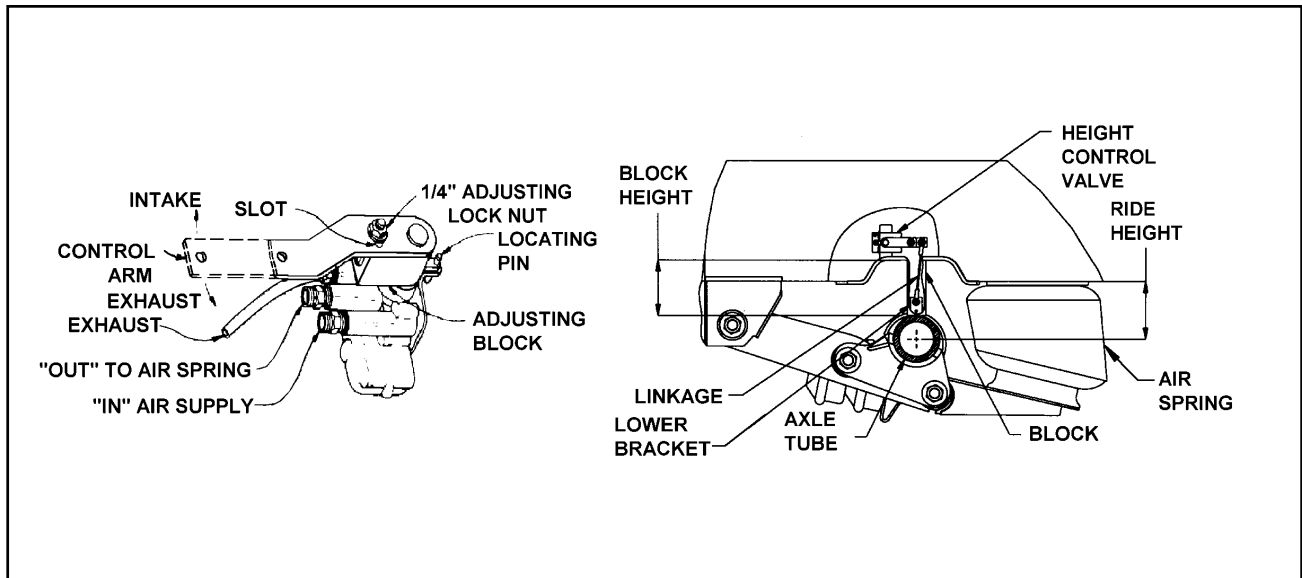

Figure 4-4 Air Ride Height Adjustment
4-6.3 Air Ride Height Adjustment. (See Figure 4-4 for parts identification).
- b. Disconnect linkage at the control arm and raise control arm to the "up" position, raising the trailer until a block can be placed between axle tube and undercarriage frame (See Figure 4-4).
- f. Loosen the 1/4" adjusting lock nut located on the adjusting block, allowing the control arm to move approximately 1 inch. Move the adjusting block until holes align, then insert locating pin. **(See Figure 4-4).**